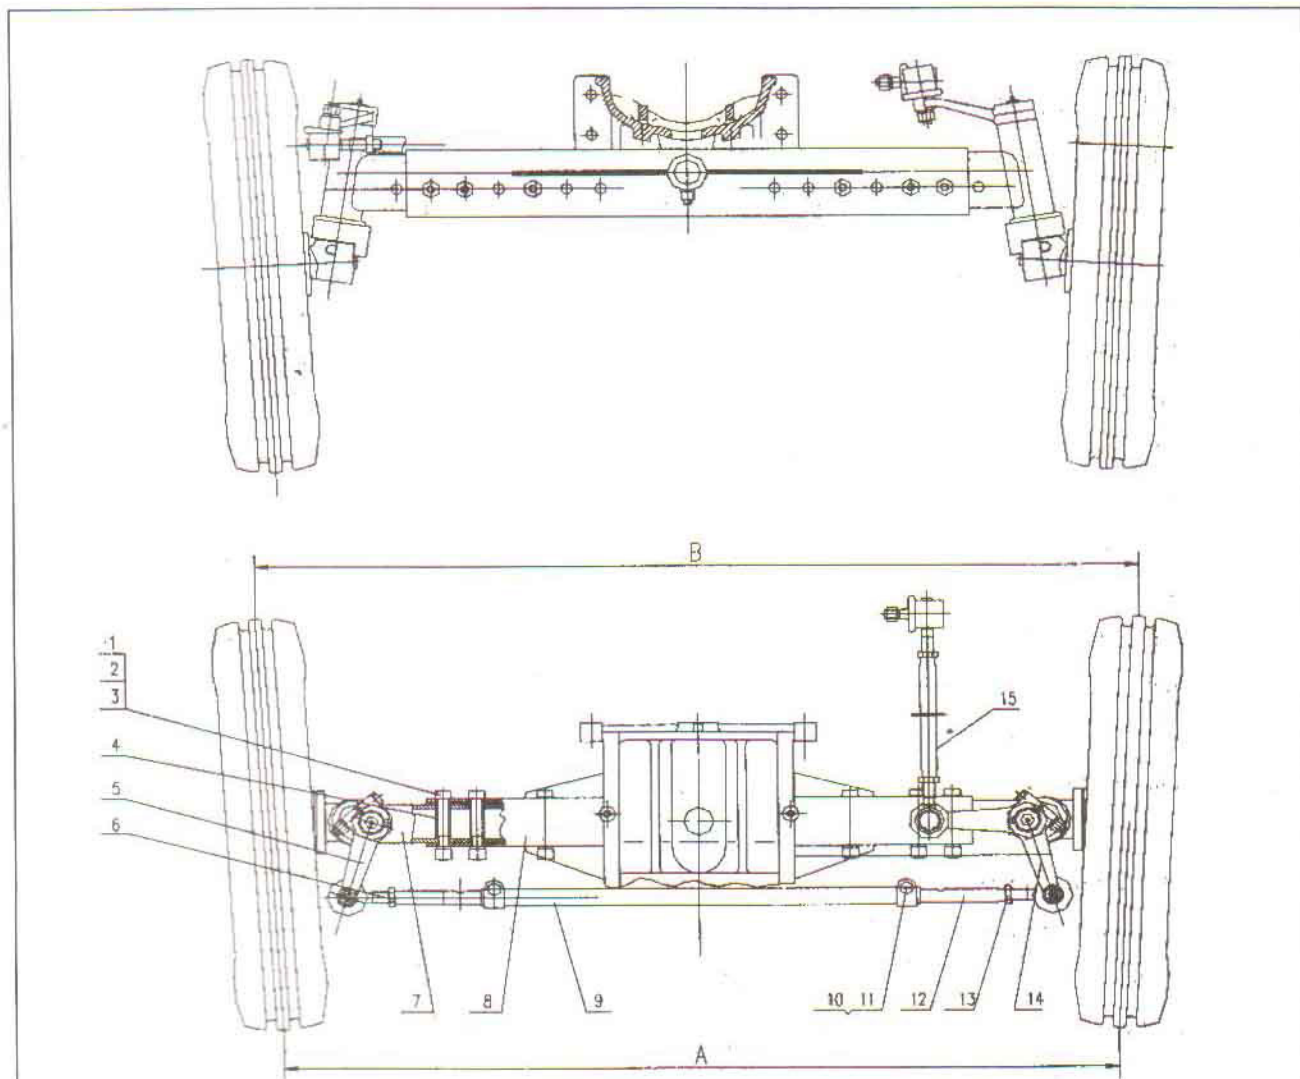

Figure 4.3.5.1 Front shaft
4.3.5.1 Construction of front shaft (see figure 4.3.5.1)